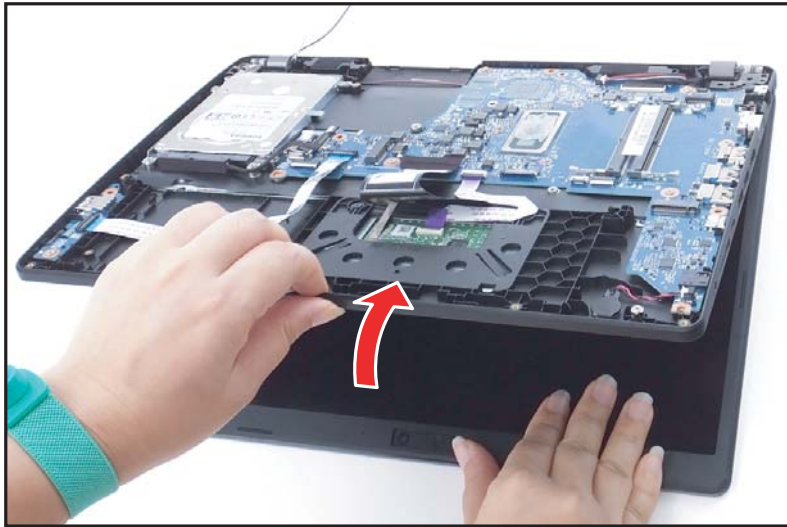

Figure 1-43. Mainboard Removal
2. Lift the top assembly until it is fully open (Figure 1-43).